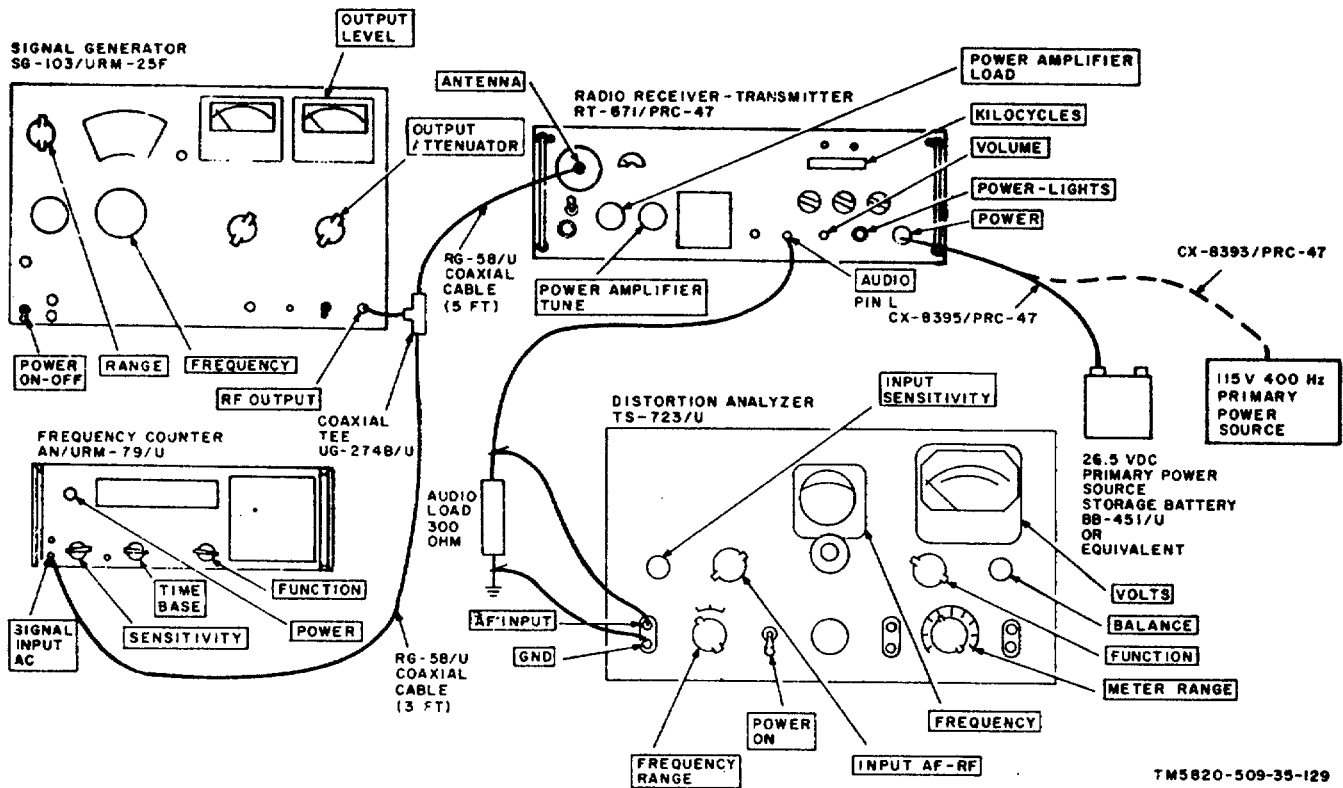

Figure 4-2. Receiver Audio Output Distortion Test, Equipment Setup.
(fig. 4-2)
(1) Connect the test equipment to Radio Receiver-Transmitter RT-671/PRC-47 as shown in figure 4-2.
(2) Connect the primary power source to the receiver-transmitter.
(3) Turn on the test equipment and place the POWER-LIGHTS switch on RT-671/PRC-47 to POWER ON. Permit the equipment to stabilize at least 5 minutes before beginning the procedures shown in the chart below.